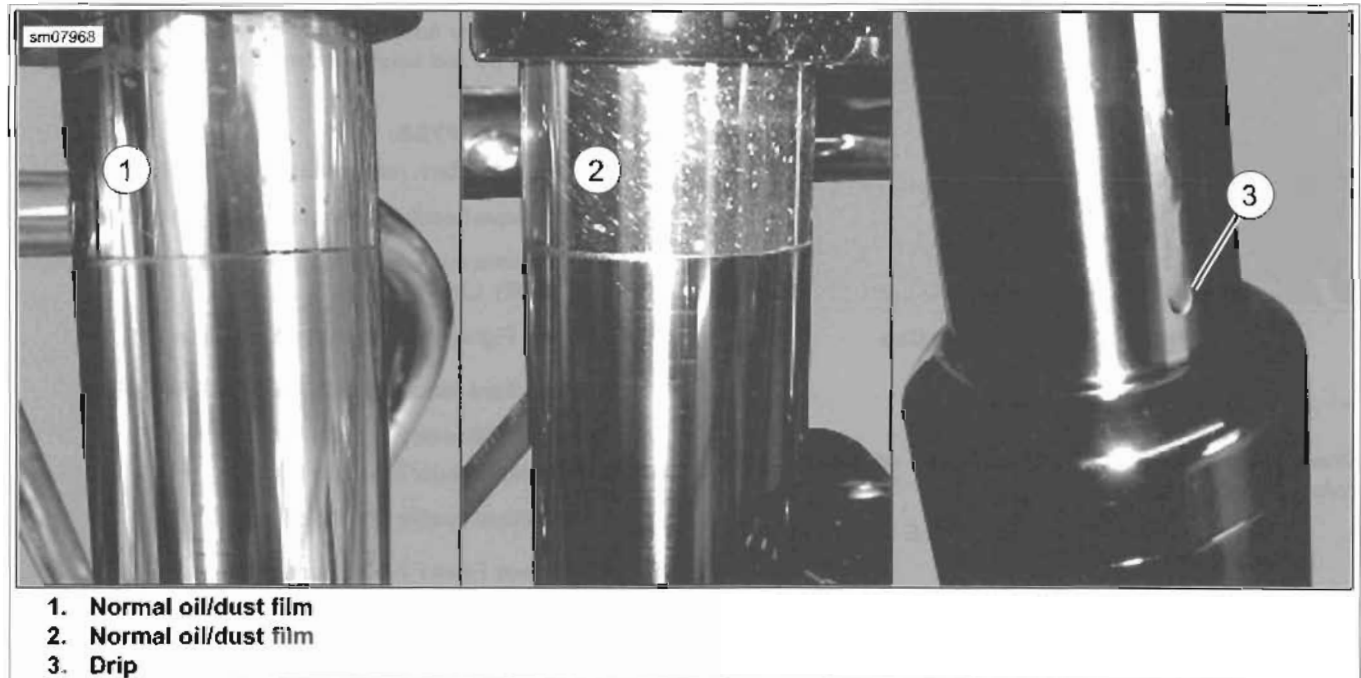

Figure 2-75. Front Forks
4. See Figure 2-75. Check fork slider tube for oil.
- b. If an oil run or drip (3) is present, perform procedure two or three more times to confirm oil leak.